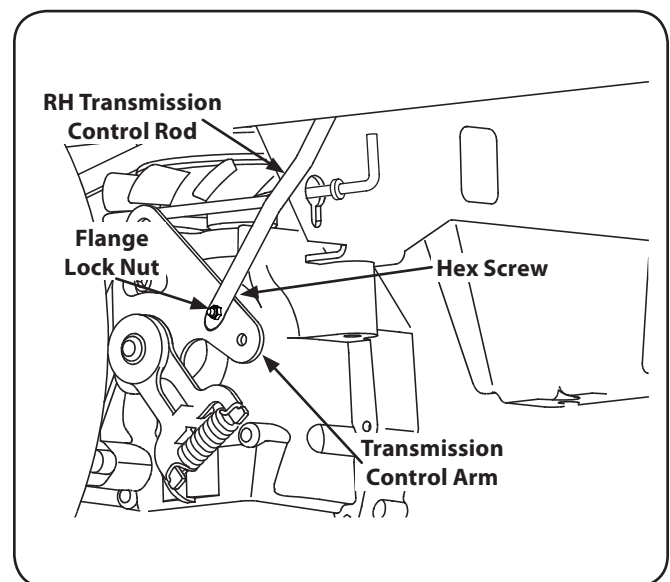

Figure 7-11
- If only one wheel is rotating, locate the transmission control rod beneath the frame at the front of the rear tire. If both wheels rotate, locate both control rods. See Figure 7-11.